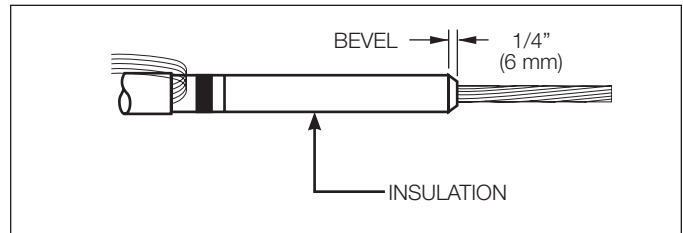

Figure 6.
- Remove sharp edge of insulation by beveling at 45° angle for approximately 1/4" (6 mm). (See Figure 6.)